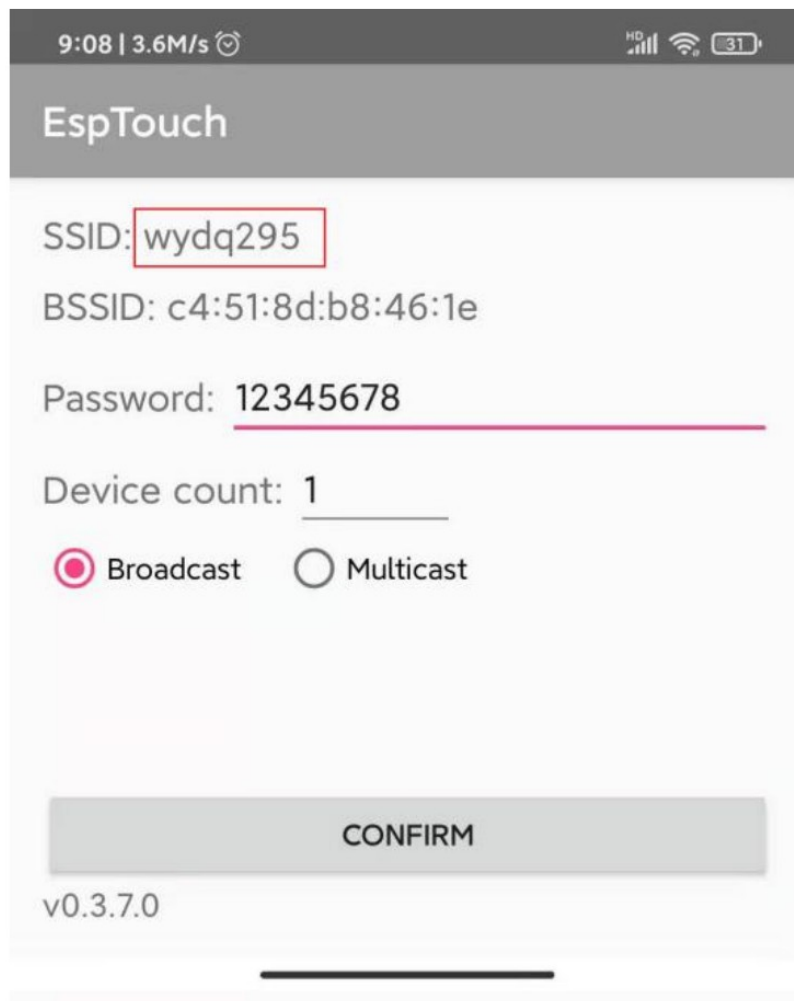

Fig. 6-4 APP interface
- e) Open the esptouch APP, enter the password for the WiFi network name (shown as Fig. 6-4), and keep the phone in the esptouch APP, do not exit.